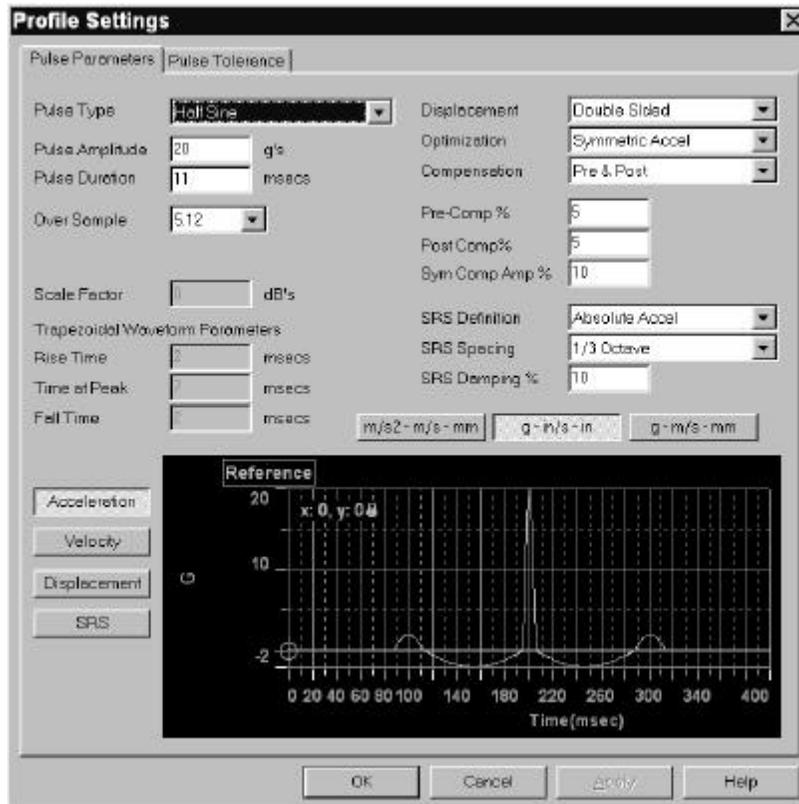

Figure 1-7. Pulse Parameters Tab of the Profile Settings Window
3. Click **SETUP** ⇒ **PULSE PARAMETERS** or click the <**Setup Pulse Parameters**> Button. The **Profile Settings** Window appears. See Figures 1-7 and 1-8.